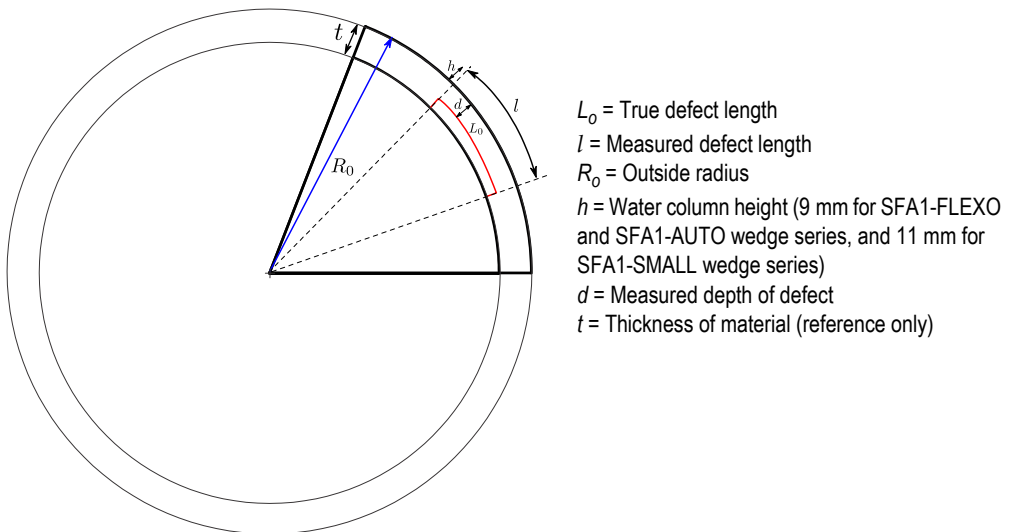

Figure B-1 Variables for calculating true defect length along the index axis
To calculate the true defect length (L_0) along the index axis, use equation (2) on page 77. The variables are illustrated in Figure B-1 on page 77.